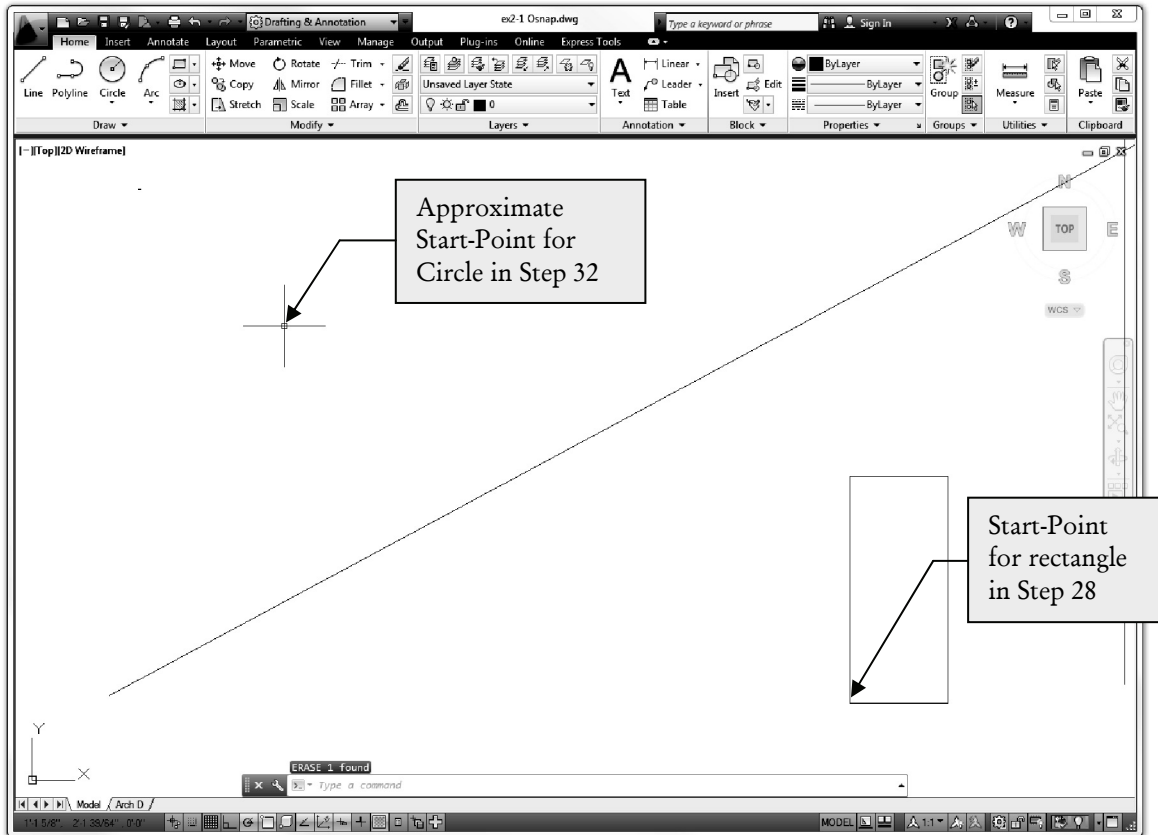

FIGURE 2-1.13 Drawing with Rectangle added
28. Pick your “**first corner point**” somewhere near the middle-bottom of the *Drawing* window (Figure 2-1.13).
32. You are now prompted to pick the center point for the circle; pick a point approximately as shown in Figure 2-1.13.